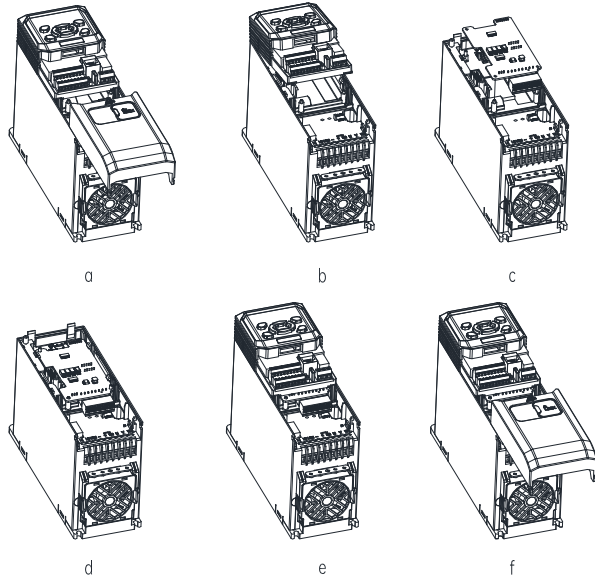

Fig. 7 Position 1 - PG card installation steps
- When the drive is powered off, press the granulated part on the middle-upper of the lower cover, and slide it down firmly to take down the cover, as shown in Fig. 7-a.
- Use a straight screwdriver to pry open the two snap-fit joints between the control box and the drive, and then remove the control box upwards, as shown in Fig. 7-b and c.
- Install the PG card: Hold the PG card with its terminal block downwards, then align the three round holes on the PG card with the location column, and press down to buckle the PG card firmly into the four snap-fit joints, as shown in Fig. 7-d.
- After the PG card is installed, align the control box with the snap-fit joints, and press down the control box to make its lower part firmly buckled, then slide the lower cover to lock it on the drive, as shown in Fig. 7-e and f.